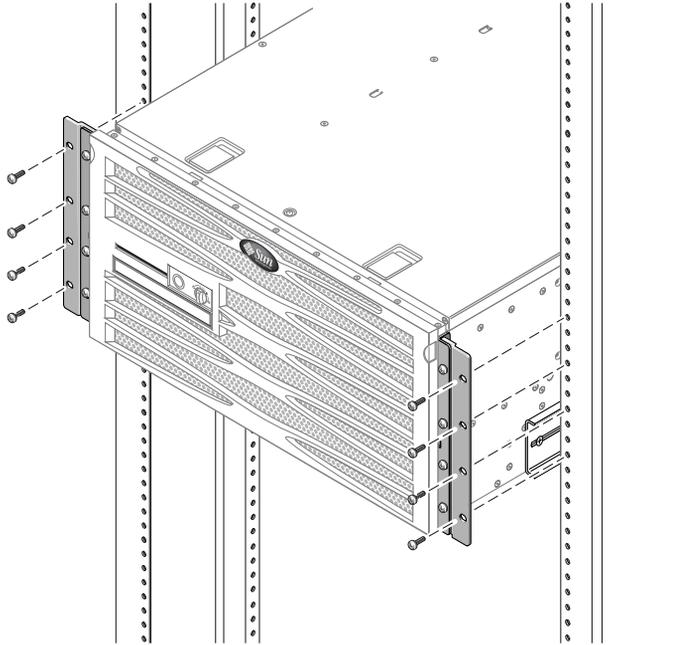

FIGURE 3-19 Attaching the 600 mm Front Adjuster Brackets to the Rack
9. Using four screws per side, secure the 600 mm front adjuster brackets to the front of the rack (FIGURE 3-19).